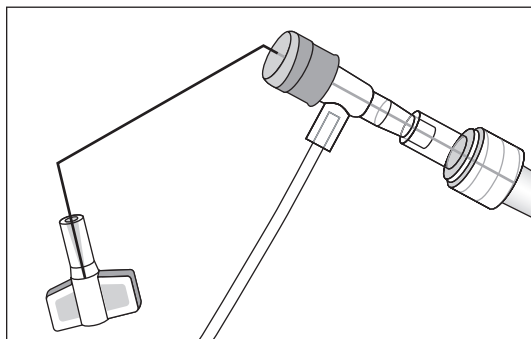

Figure 5
- Kink proximal end of placement wire at connector with side-port (see Figure 5). This minimizes the risk of placement wire extending beyond distal tip of catheter during insertion. (Do not attempt to advance placement wire through septum.)